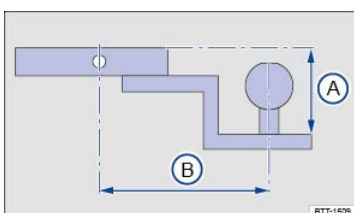

Fig. 158 Dimensions of the ball mount support.
The receiver used requires both a ball mount and a ball that meet special requirements regarding geometry and size. This applies to both the height of the ball above the surface where it attaches \Rightarrow Fig. 158 (A), and the pin-to-ball distance \Rightarrow Fig. 158 (B).
- The drop height \Rightarrow Fig. 158 (A) from the top of the ball platform to the top of the shank must be $1 \frac{39}{64}$ inches (40.6 mm).
- The pin-to-ball distance \Rightarrow Fig. 158 (B) from the center of the ball to the center of the hole for the securing pin on the ball mount must be no more than $6 \frac{13}{64}$ inches (157.5 mm).